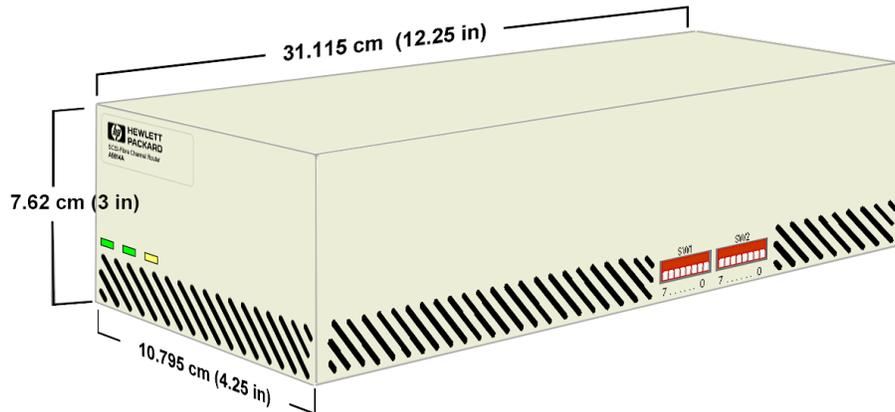

Figure 1-1. SCSI-FC Router
To the host, the SCSI-FC Router (shown in Figure 1-1) is functionally transparent and the target devices on the Fibre Channel loop appear as SCSI devices. Since the SCSI-FC Router also appears to the host as a parallel SCSI device, its usage and installation are simple. The SCSI-FC Router attaches directly to the SCSI host adapter. The SCSI-FC Router is supplied in a self-contained 3"(H) x 4.25"(W) x 12.25"(D) enclosure that can either be installed on a desktop or four-abreast in the 19" rackmountable SCSI-Fibre Channel Router Enclosure. For more information concerning the SCSI-Fibre Channel Router Enclosure, refer to the *SCSI-Fibre Channel Router Enclosure Installation Guide*.